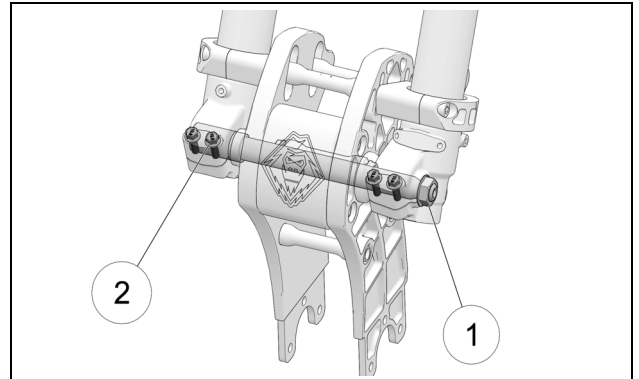

Figure 14
- Tighten, in sequence, the front wheel axle nut (1) and then the pinch bolts (2) at the bottom of the forks to the torque specifications recommended by the bike's manufacturer. Figure 14.